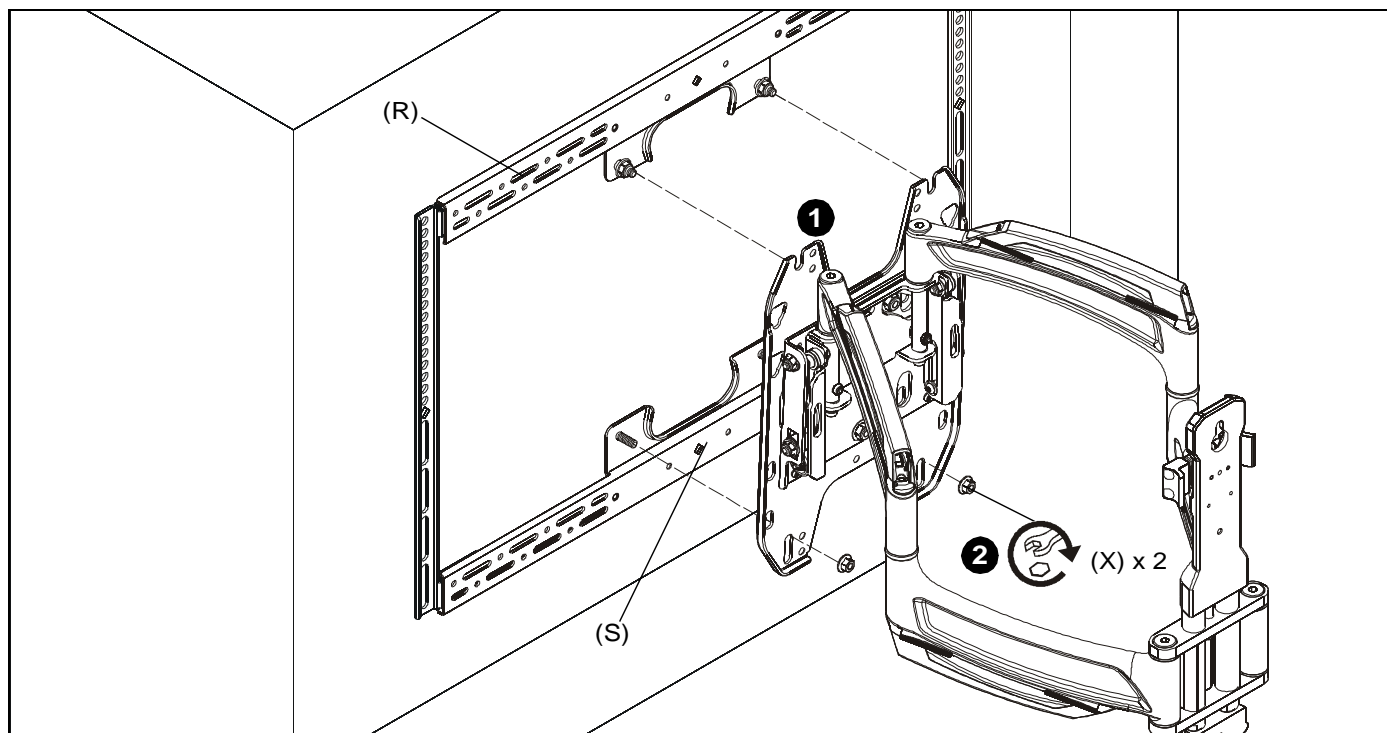

Figure 23
1. Hang interface bracket and display to faceplate by placing two mounting buttons on top interface support (R) over two teardrop grooves on top of faceplate. (See Figure 23)
2. Secure interface bracket and display to faceplate by installing two 1/4-20" flange nuts (X) onto screws on lower interface support (S). (See Figure 23)